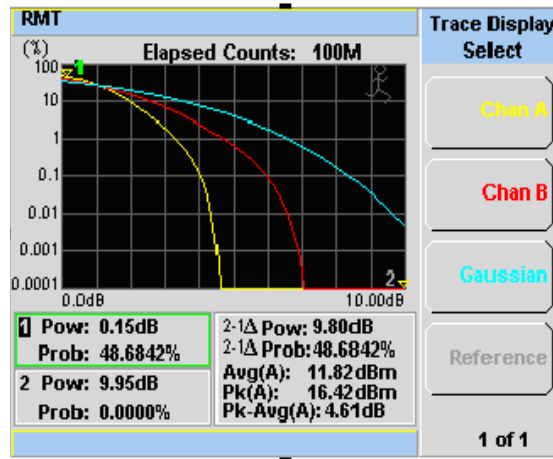

Figure 9-150 Trace Display Select control menu
- Press **Trace Control**, **Trace Display** and select the trace that you wish to display. The trace which is not selected is grayed out, as in Figure 9-150.